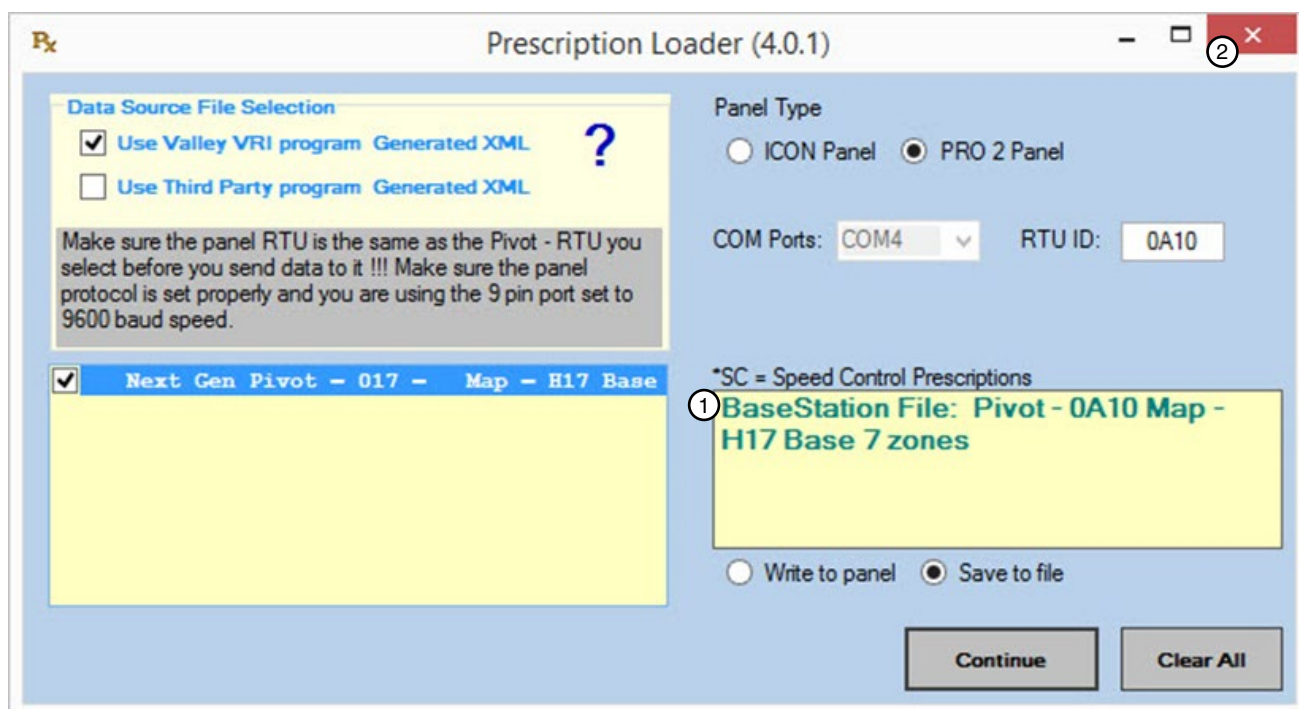

Figure 45-2 1. File Stored Indicator 2. Close
- The file is saved to the location and the Prescription Loader screen is updated with the file information. See Figure 45-2.
2. Click the **Close** button on the Prescription Loader screen to exit the Prescription Loader application. See Figure 45-2.